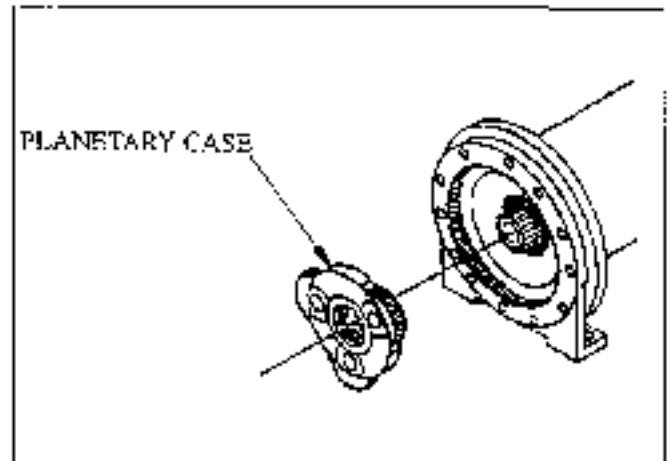

Figure 25
3. Coat the mating surfaces of the final drive mount and ring gear with liquid gasket. Install the planetary case assembly. See Figure 25.